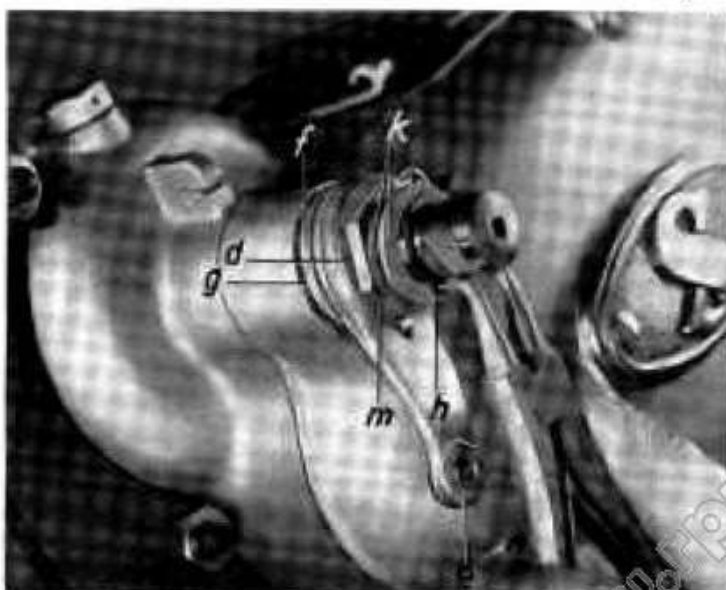

Fig. 21
- 3.7 Remove the brake lever from the bracket shaft. Using special pliers, remove the retaining ring (h). Remove the shims (k). Remove the split pin (d) from the nut M 20.8 (m), left-hand thread, and unscrew the nut. [Socket wrench SW 26]. Remove the brake lever (e) and bearing disk (f), both internally geared. Remove the check plates or shims (g) under the bearing disk. (Fig. 21).